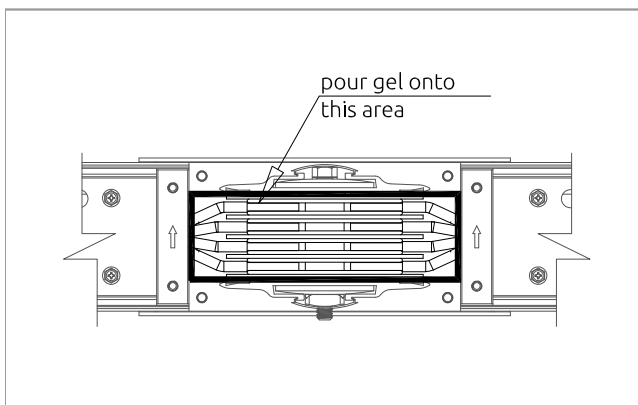

Figure 9.4
6. Pour the mixed compound into the area until full and **countercheck it in full condition after 30min** as shown in Figure 9.4. Complete cure time is in 8-12 hours@ 25°C or 1 hours 80 °C.